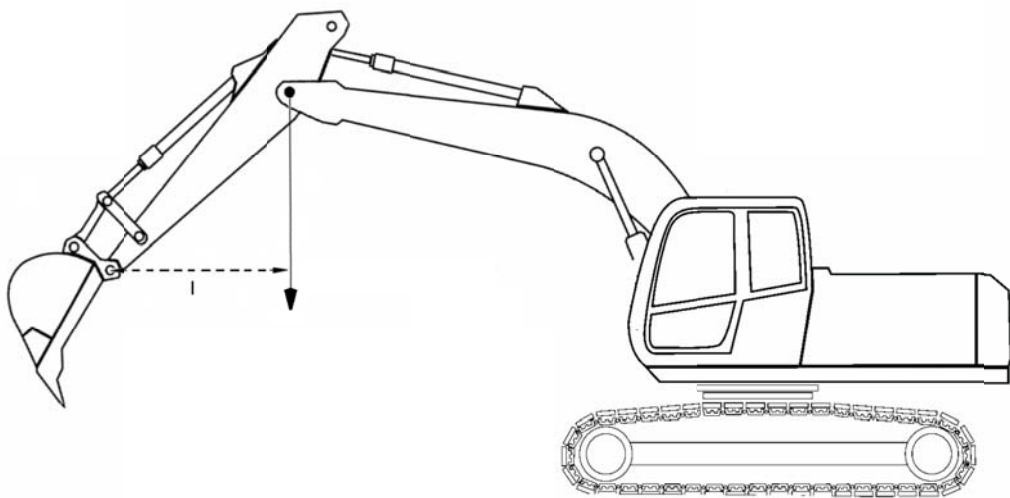

Figure 29. Calibration distance
- Measure calibration distance (Figure 29). Distance can be measured by using a plumb line or a point laser. Insert the plumb line to the upper pin of the stick and measure horizontal distance from the plumb line to the lower pin of the stick. If measurement of the calibration distance is difficult, value can be left to 0.000 m and the calibration wizard calculates the distance automatically.